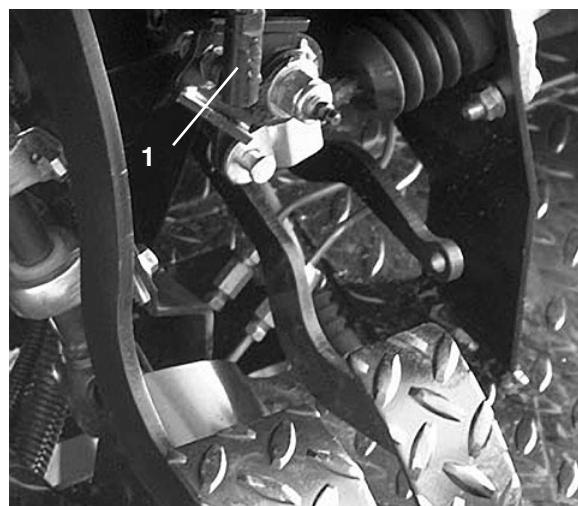

Figure 55
Adjusting the Brake Pedal (Fig. 55–56)
7. Recheck clutch safety switch adjustment (Fig. 55). Engine must not crank unless clutch pedal is $2.9\text{cm} \pm 6\text{mm}$ ($1.25'' \pm .25''$) from floor. If an adjustment is required, loosen switch jam nuts and adjust up or down.